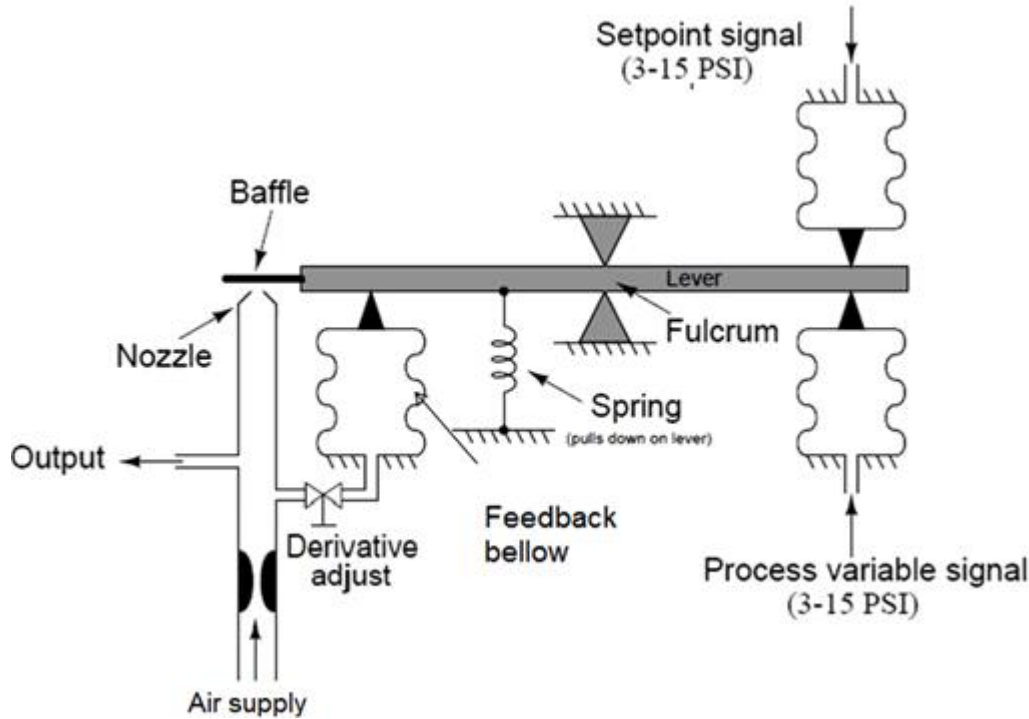

Fig 2.2 Proportional-Derivative (PD) controller
2.2 Proportional-Derivative (PD) controller
A proportional-derivative (PD) controller is shown in Figure 2.2 To add derivative control action to a P-only controller, all we need to place a restrictor valve between the nozzle tube and the output feedback bellows, causing the bellows to delay filling or emptying its air pressure over time.